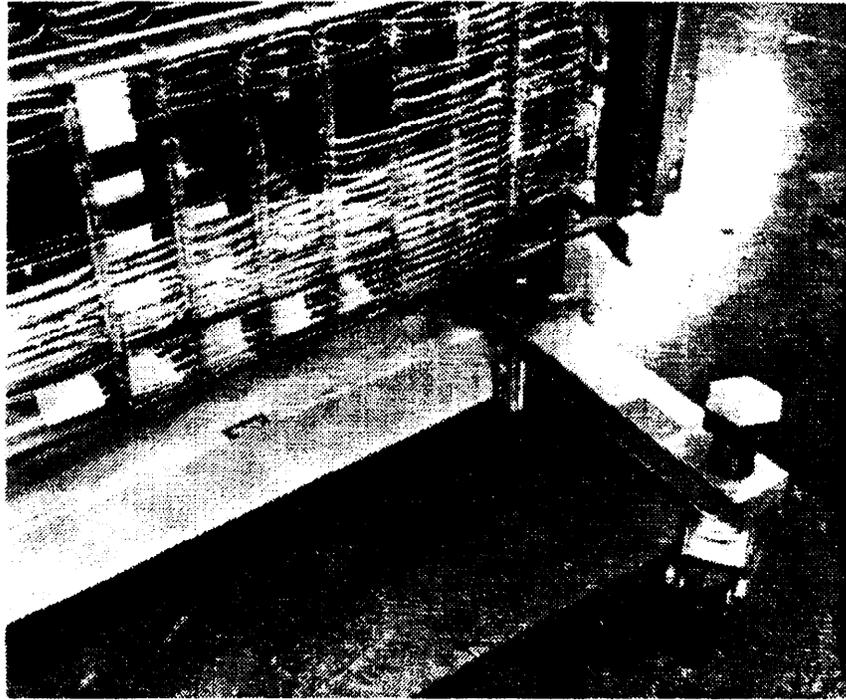

Figure 24. Use of the Dolly, Step 2.
- (b) Position the frame channel base support between each set of J bolts assembled to each section of the dolly. Tighten each J bolt to the closest channel base support flange (Figure 24).